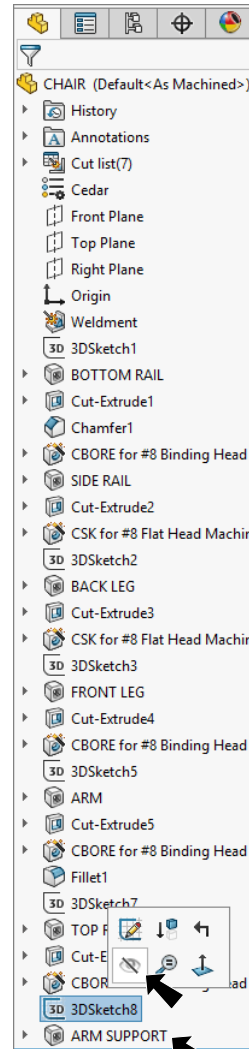

Fig. 7
Step 1. Rename Chair Wood 2 X 4(1) to ARM SUPPORT in the Feature Manager, Fig. 7.
Step 2. Hide 3DSketch8. To hide, click 3DSketch8 in the Feature Manager and click **Hide**  on the context toolbar, Fig. 7.